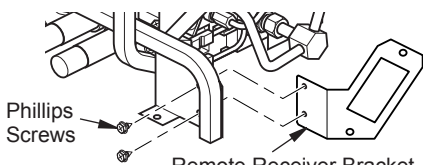

Figure 20 - Installing Remote Receiver Bracket
- Install receiver bracket to base with Phillips screws provided in hardware kit as shown in Figure 20.